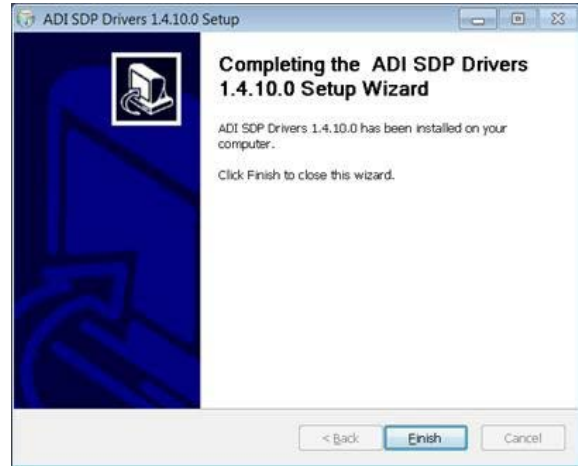

Figure 8. Driver Installation Complete
4. Click **Finish** to complete the driver installation (see Figure 8).